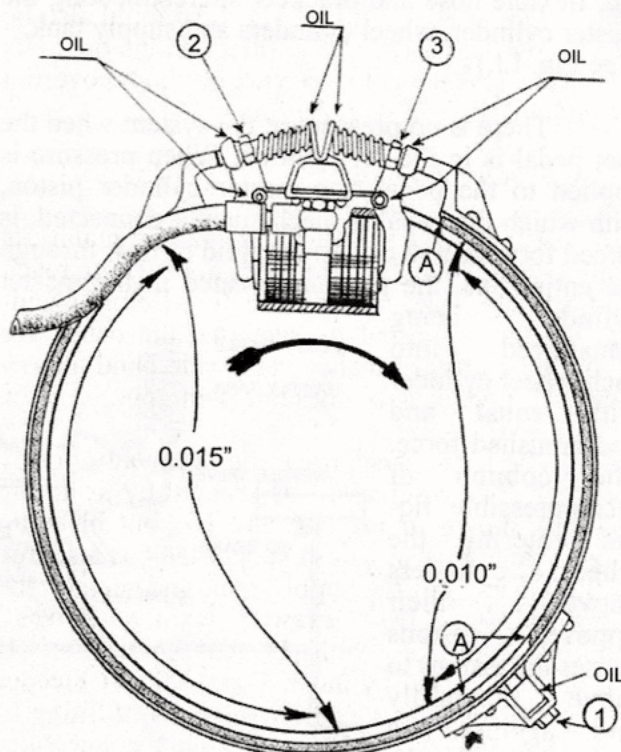

FIG. L2 - LINING CLEARANCES ON EXTERNAL TYPE BRAKES
1. First unlock the system by unscrewing the supply tank pump rod. Then with car raised, remove cotter and turn anchor adjusting screw (Fig. L2) until gap between lining and drum will admit a 0.010 in. feeler gage. At this time
Final clearance adjustment is made at the band end nuts. Set clearance to about 0.015 in. at long portion and 0.010 in. at short half of band as shown in Fig. L2. If it is impossible to get even clearance all around it indicates a deformed band